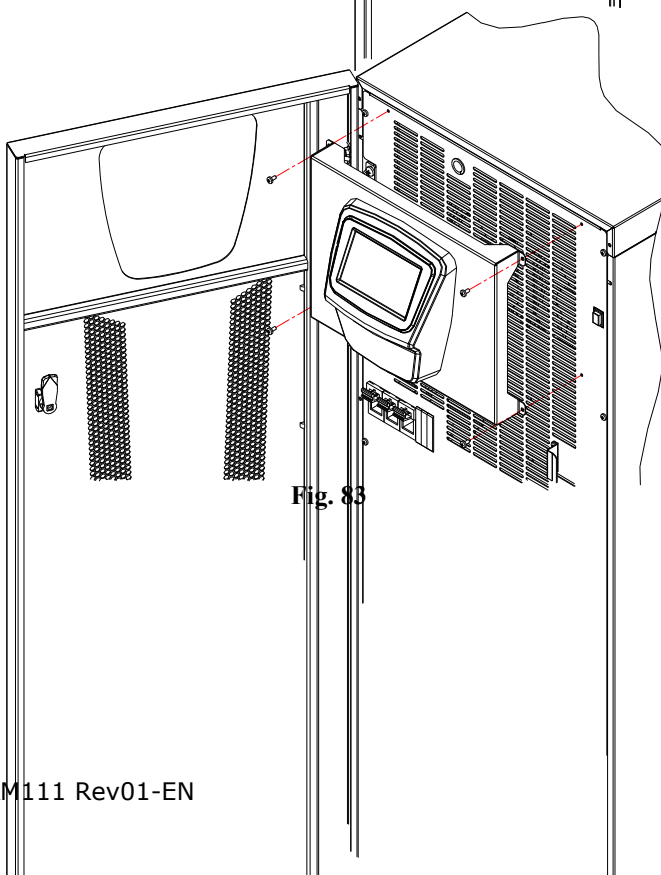

Fig. 83
- **XTD:** remove the n°4 screws from the metallic display support (Fig. 83). Remove n°4 screws from the cable cover (Fig. 84), then remove the RJ45 cable.